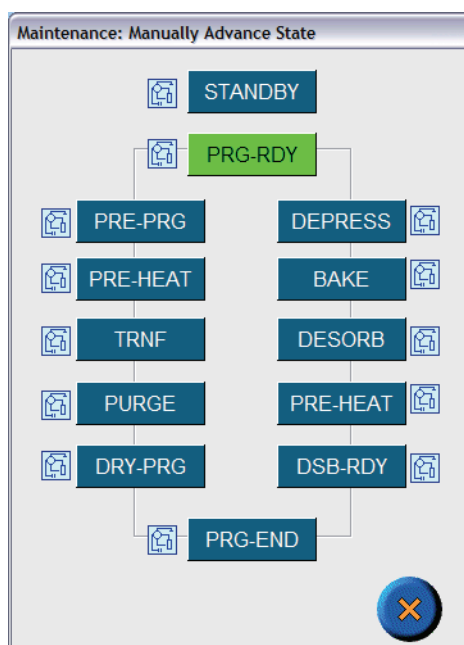

Figure 6.32. Instrument in “Purge-Ready”
1. From the Maintenance screen, step the instrument to either the “Standby” or “Purge Ready” state (refer to Figure 6.32).